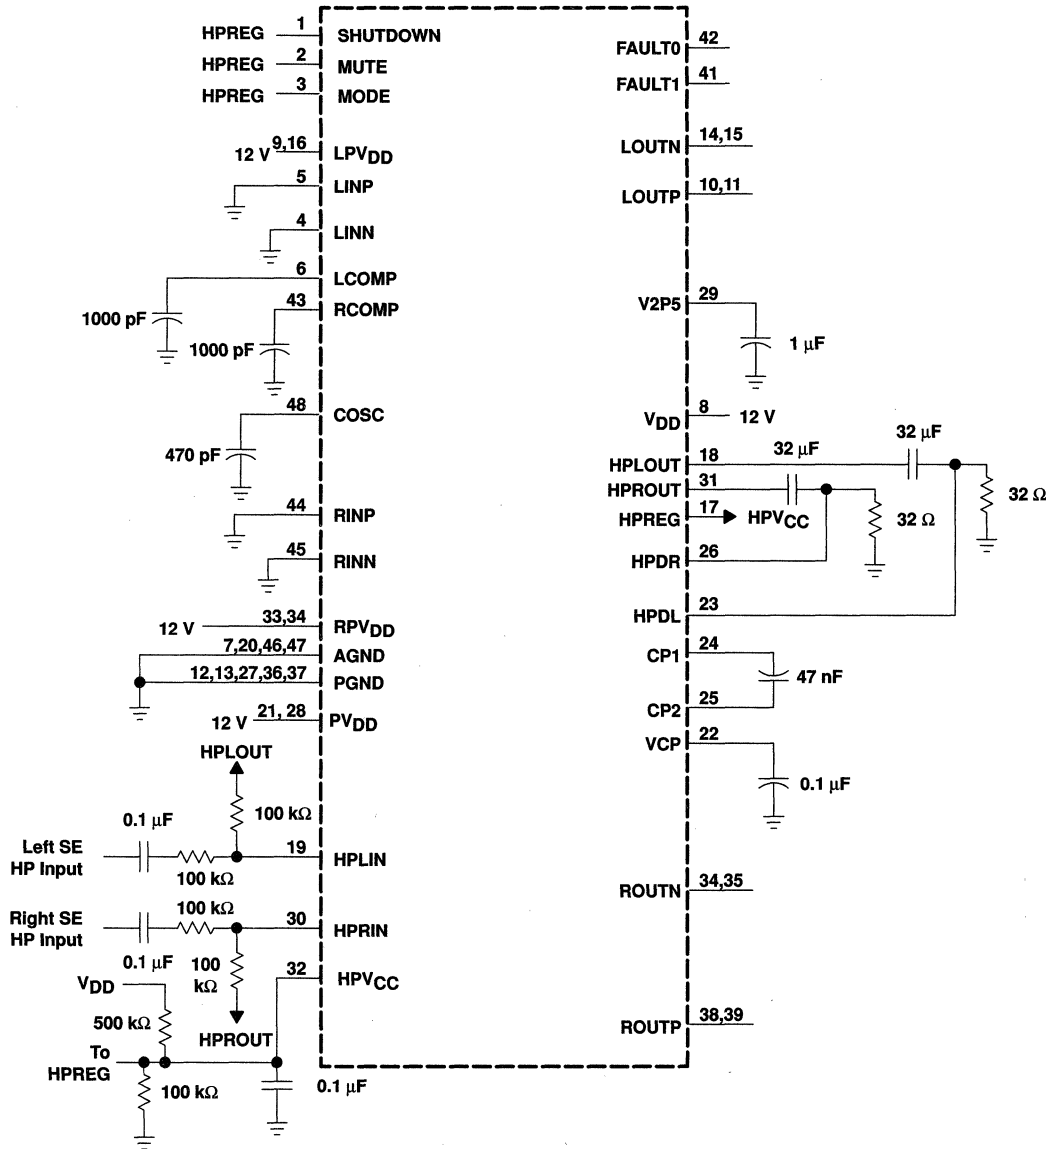

Figure 3. Headphone Test Circuit
**electrical characteristics, headphone amplifier,  $HPV_{CC} = 5\text{ V}$ ,  $R_L = 32\ \Omega$ ,  $T_A = 25^\circ\text{C}$ , See Figure 3 (unless otherwise noted)**
**operating characteristics, headphone amplifier,  $HPV_{CC} = 5\text{ V}$ ,  $R_L = 32\ \Omega$ , gain set at  $-10\text{V/V}$ ,  $T_A = 25^\circ\text{C}$ , See Figure 3 (unless otherwise noted)**